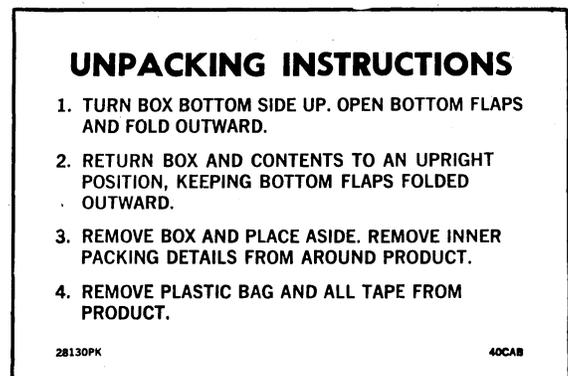

Fig. 13
1.30 Any special instructions necessary to open a box will be affixed to the top of the box. A sample instructions label is shown in Fig. 13. If no label is on the box, use these procedures when the box is opened in Part 3: